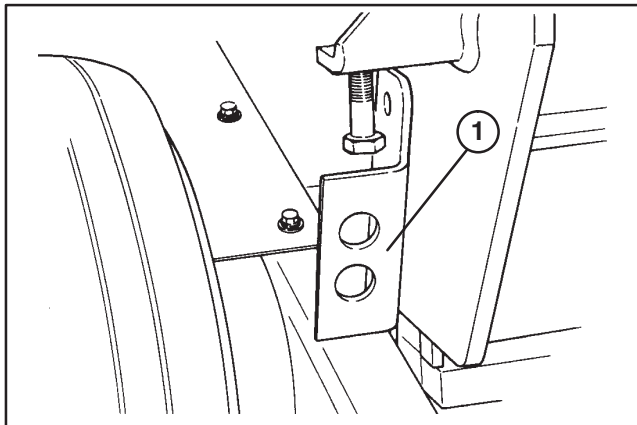

Figure 11
3. Stop engine and raise lock-up brackets on each side of chassis (Fig. 11). Lower coring head until it rests on brackets.